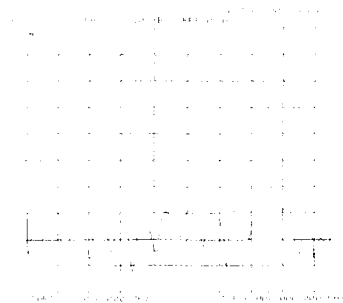

Figure 1-24. Reverse Reflection Mode
- 13 Press MEAS, *Ref: E S22 REV* to check the reverse reflection mode for channel 1. The measurement trace should be similar to Figure 1-24.